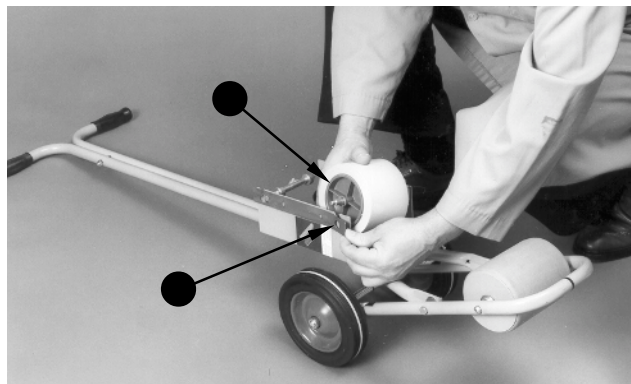

Figure 1
Refer to Figures 1 through 3 and follow the steps below to load tape roll(s) for one or two color tape applications.
**Note:** Install the tape drum assembly and tape with the drum flange (B, Figure 1) on the same side as the guide line.